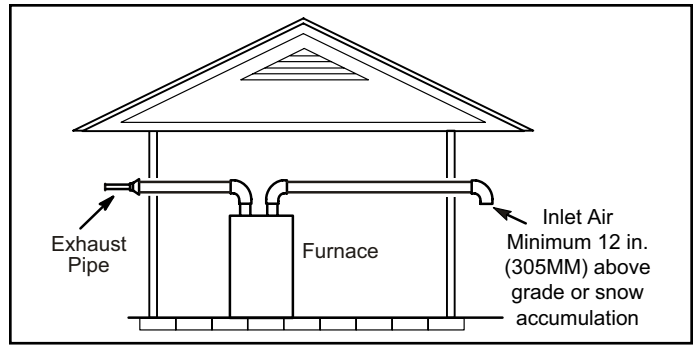
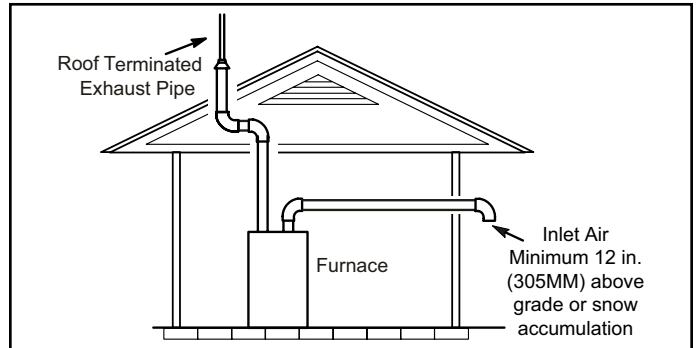

Figure 31. Exiting Exhaust and Intake Vent (no common pressure zone)
Figure 32. Exiting Exhaust and Intake Vent (no common pressure zone)
1. Intake and exhaust terminations are not required to be in the same pressure zone. You may exit the intake on one side of the structure and the exhaust on another side (Figure 31). You may exit the exhaust out the roof and the intake out the side of the structure (Figure 32).